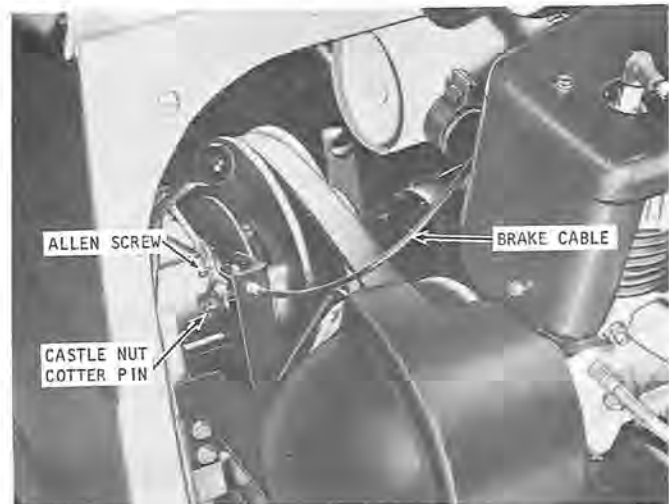

Figure 8
1. If the brake needs tightening, loosen the Allen screw shown in figure 8. Pull brake cable tight and secure Allen screw.
2. If further adjustment is needed, remove cotter pin (figure 8) from the castle nut on the brake arm and tighten castle nut until the brake pads just drag on the brake disc. Then back off the castle nut one notch and reinstall cotter pin.